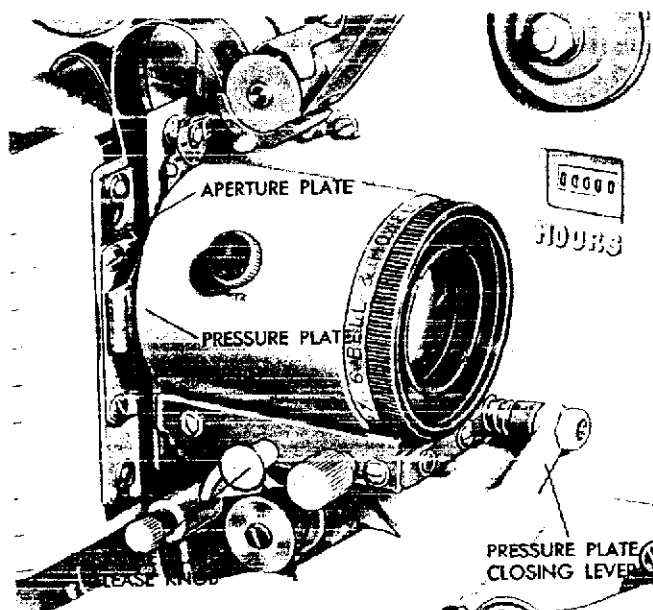
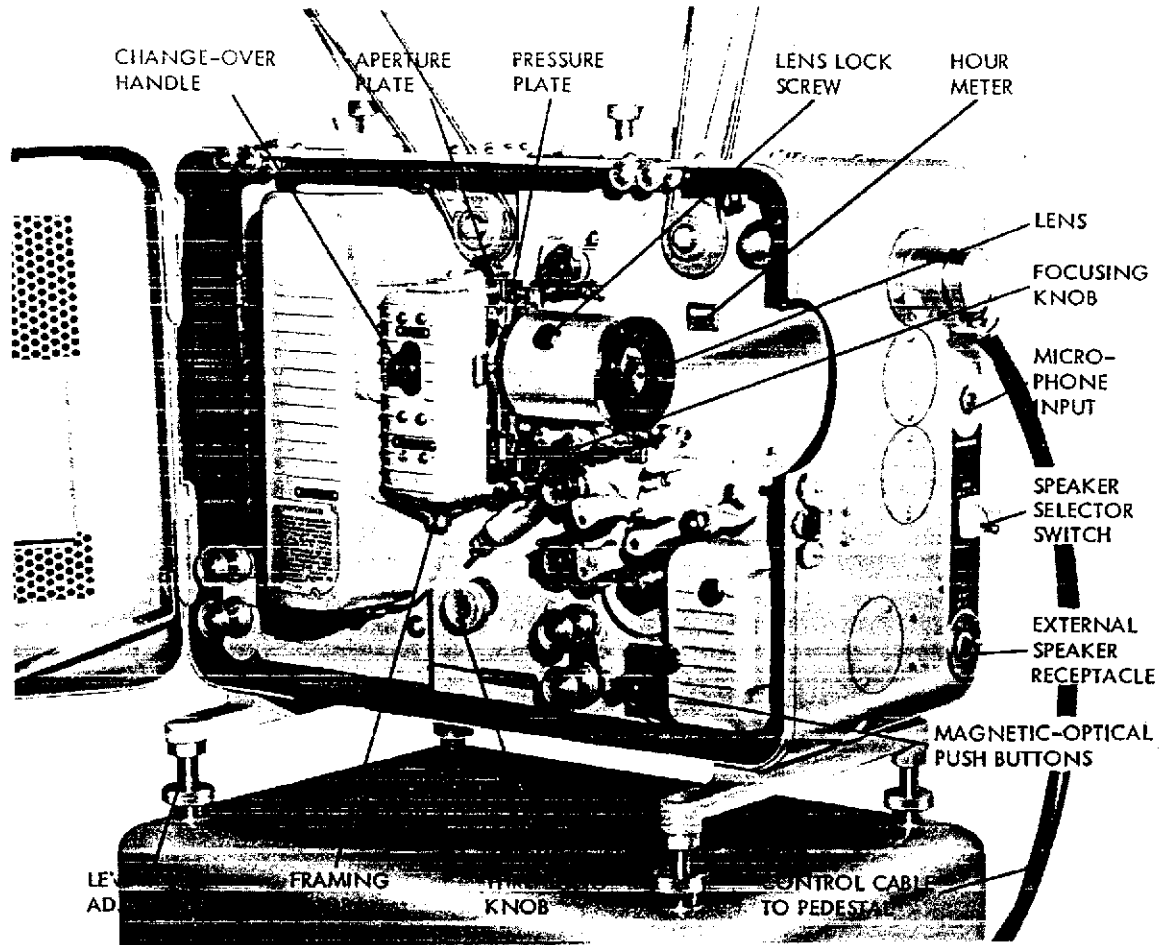
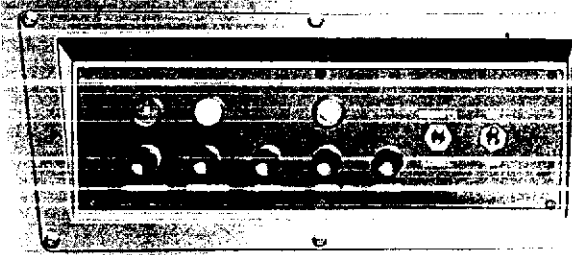

Figure 11. Controls for Opening and Closing Film Gate
Figure 12. Projector Operating Controls
Figure 13. Pedestal Control Panel
a. Check to be sure the aperture plate (figure 11) is all the way down. To do this, open the film gate by pulling out the pressure plate release knob. Grasp the handle of the aperture plate and push it down firmly as far as it will go. Close the film gate by pushing the pressure plate closing handle until the pressure plate release knob snaps back in.
NOTE: Operating controls for the equipment are illustrated in figures 12, 13 and 14.
b. Turn the threading knob (figure 12) to the point where the words "THREADING KNOB" are in a horizontal plane. This will place the shuttle teeth in their maximum protrusion position for engagement with the film perforations. Open the film gate by pulling the pressure plate release knob (figure 11). Form a proper length of upper film loop. (Film loop must be of the size indicated by the loop guide line on the mechanism plate.) Place the film flat on the aperture plate. Be sure the film is located in the recessed portion of the aperture plate, flat against the aperture opening, and that the shuttle teeth engage with the film perforations. Then, bring the pressure plate against the film by moving the pressure plate release handle toward the lens and to the left as far as it will go without forcing.
j. Turn the threading knob (figure 12) in a clockwise direction. If it turns freely and the film moves continuously on each film sprocket without strain, and if the proper sized upper and lower loops of film are maintained, the projector is threaded properly.
a. While film is running through the first (outgoing) projector, mount the second reel of film to the feed reel arm and the empty reel to the take-up arm of the second (incoming) projector. Press the FORWARD button on the local panel for the incoming projector. Thread the incoming projector and set its changeover handle (figure 12) in the CLOSED position. As the first projector nears the end of its reel, watch for the cue dot which appears for an instant in the upper right corner of the screen. When it appears, press the RUN button for the incoming projector. Another cue dot will appear in same position on the screen approximately six seconds after the first one. When this dot appears, press the SHOW button on the remote control panel of the incoming projector pedestal stand (figure 13). Then turn off the outgoing projector. Pressing the SHOW button opens the douser of the incoming projector, and the picture is projected on the screen accompanied by sound. The picture and sound are cut out from the outgoing projector.